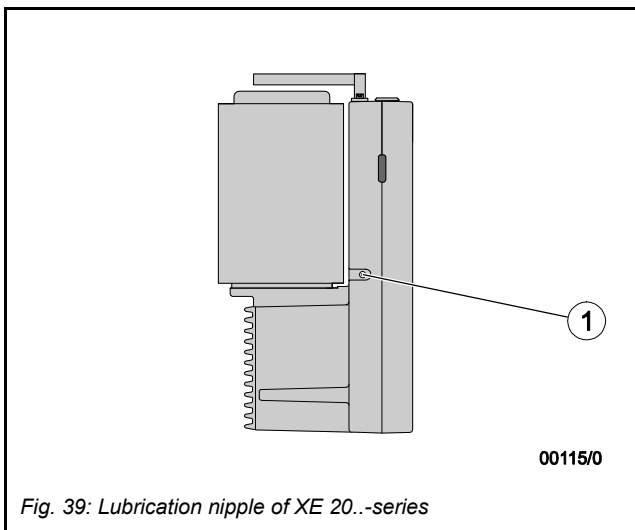

Fig. 39: Lubrication nipple of XE 20...-series
- (1) Apply the grease gun to the lubrication nipple (1), see Fig. 39.
- (2) Lubricate the lubrication nipple with 3–5 pumps (approx. 5 cm3).
- (3) Let the hoist run for approximately two seconds in the UPWARD and DOWNWARD directions.
- (4) Lubricate the lubrication nipple with 3–5 pumps (approx. 5 cm3).
tirak® hoists (A) with blocstop® BS/BSO overspeed and slack wire rope locking device (E) – here-after called BS/BSO secondary brake – are principally used with **two wire ropes** (see Fig. 39):
- The tirak® hoist goes up and down the **primary wire rope (P)**.
- The BS/BSO secondary brake works on both the **primary wire rope (P)** and the **secondary wire rope (S)** as described below.